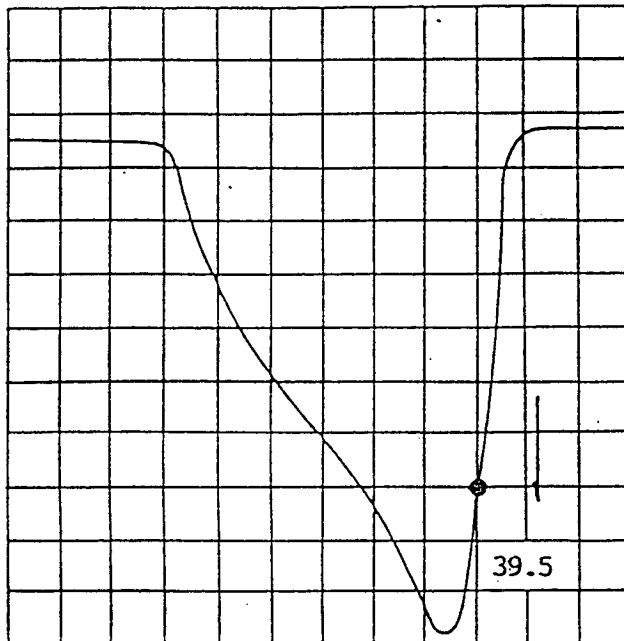

Fig. 2
B. Tank Coil Alignment Step (See Fig. 2)
- (v) Turn T101 until the marker 39.5MHz falls to the lowest point as Fig.2.